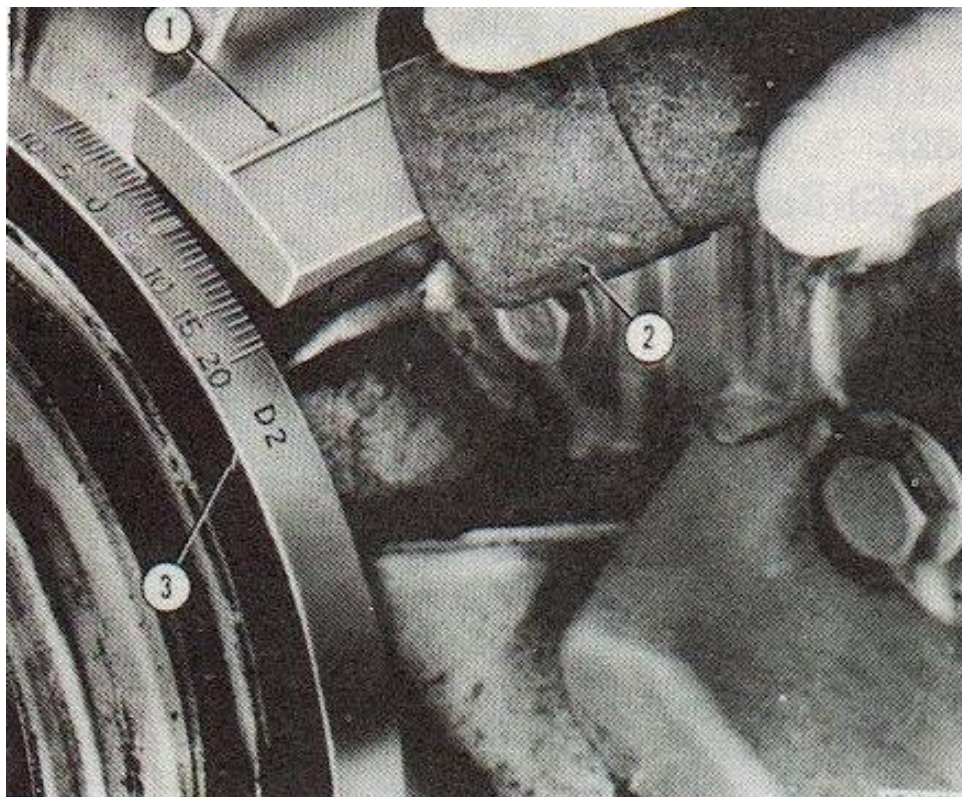

Figure2-30. Timing engine with light
- (7) While observing timing line on timing chain cover pointer with timing light, ignitor shall be rotated until timing line appears alined with 5 degree advance mark on timing scale on crankshaft vibration damper. Refer to figure 2-30.